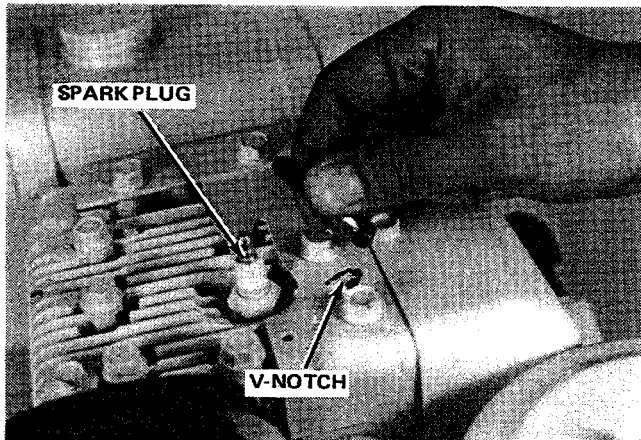

Figure 14. Inserting Terminal in V-Notch
1. Disconnect plug wire and fasten it in V-notch on cylinder cover. See figure 14 if necessary.
To avoid serious injury, perform maintenance on the tiller only when the engine is stopped. Also, remove the spark plug or remove spark plug wire and insert terminal in V-notch on cylinder cover. (See figure 14 if necessary).
For your personal safety, stop tiller engine. Remove spark plug or remove spark plug wire and insert terminal in V-notch on cylinder cover. (See figure 14 if necessary.)
To avoid serious injury, perform adjustments on tiller only when the engine is stopped. Always remove spark plug or remove spark plug wire and insert terminal in V-notch on cylinder cover. See figure 14.